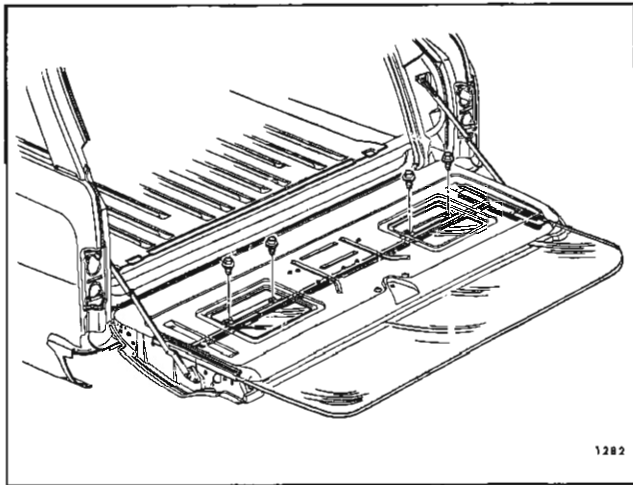

Fig. 2F20—Tail Gate Inner Panel Cams Attachment
2. Operate tail gate window to a point that the glass lower sash channel cam attaching bolts are accessible. (See Fig. 2F20).
To adjust the tail gate window forward or rearward for proper alignment with the window upper glass run channels on the body, or to eliminate a binding condition of the window in the tail gate glass run side channels, loosen the glass run channel attaching bolts (Fig. 2F18). By moving the attaching bolts adjust the run channel forward or rearward as desired and tighten the attaching bolt.